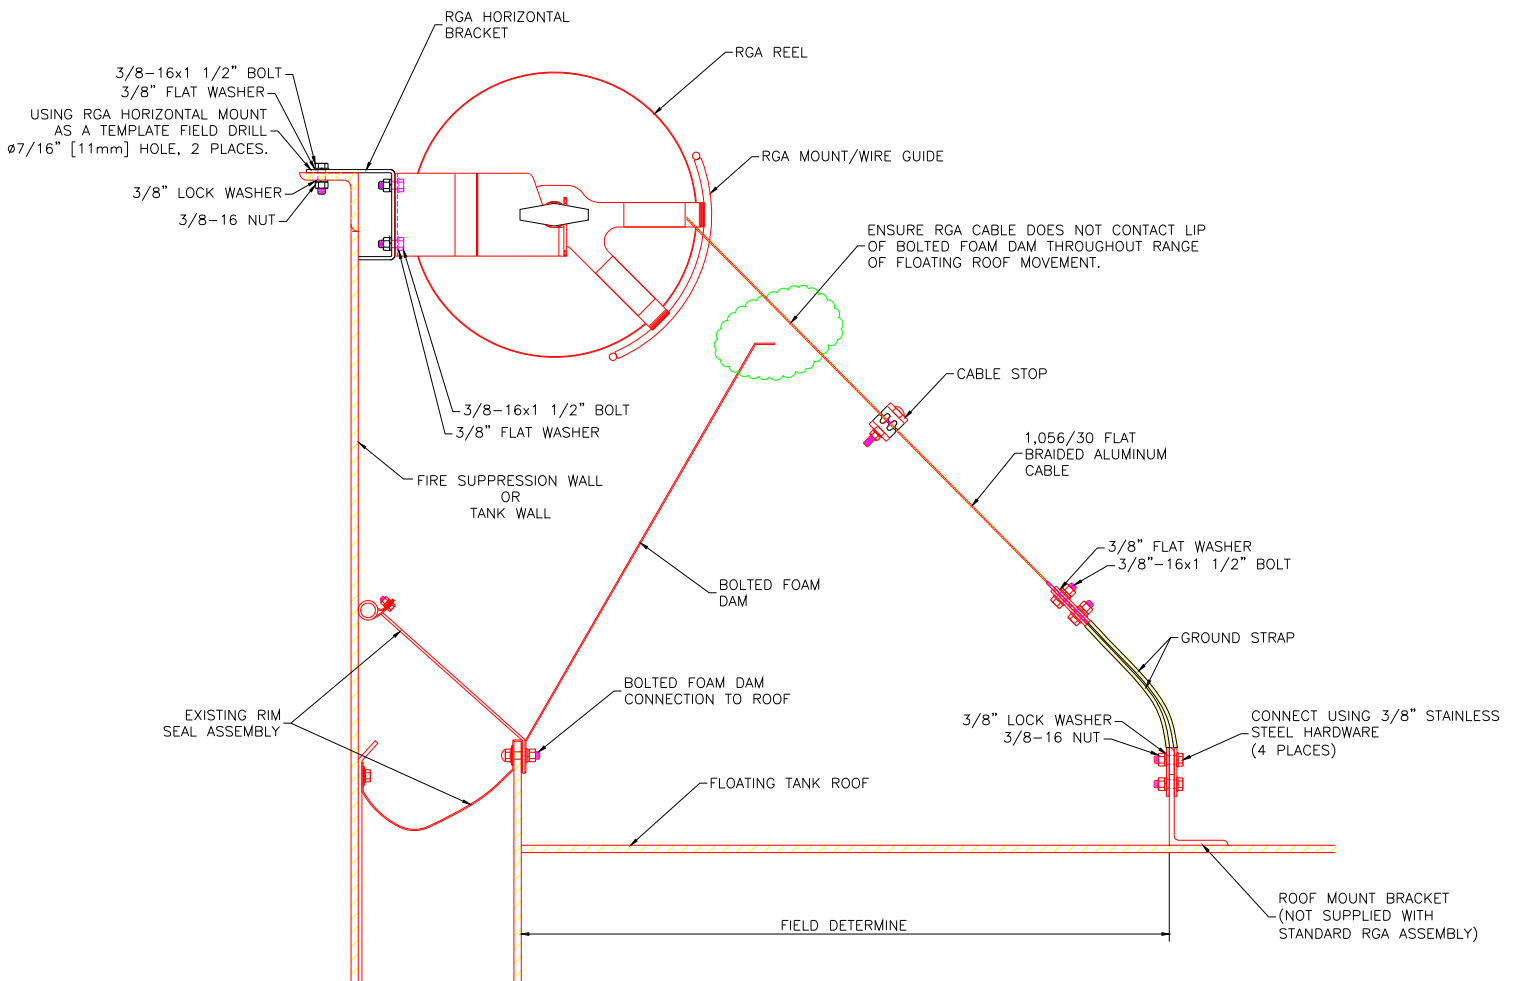

Figure 11: Bolted Foam Dam RGA Installation
Locate an attachment point to the welded foam dam that is vertically aligned with the RGA, then create two (2) 7/16 in. [11mm] diameter holes using the Ground Strap as a template, see Figure 11. Scrape paint and rust from around the drilled holes and under the ground strap mounting surfaces to bare metal. Apply Lectra Shield to both sides of the holes and all bare metal to prevent rusting.
Bolted foam dam strap installation – If the foam dam is bolted to the roof, as shown in Figure 11, then the instructions below should be followed in order to attach the RGA straps to the tank roof.
Locate a level portion of roof that is vertically aligned with the RGA and sufficiently inboard from the tank wall so that the RGA cable and straps will not rub against any portion of the bolted foam dam as the tank roof rises and falls, as shown in Figure 11. The RGA cable and straps will be nearest to the lip of the foam dam when the tank is at its fullest and the roof is near the top of the tank.